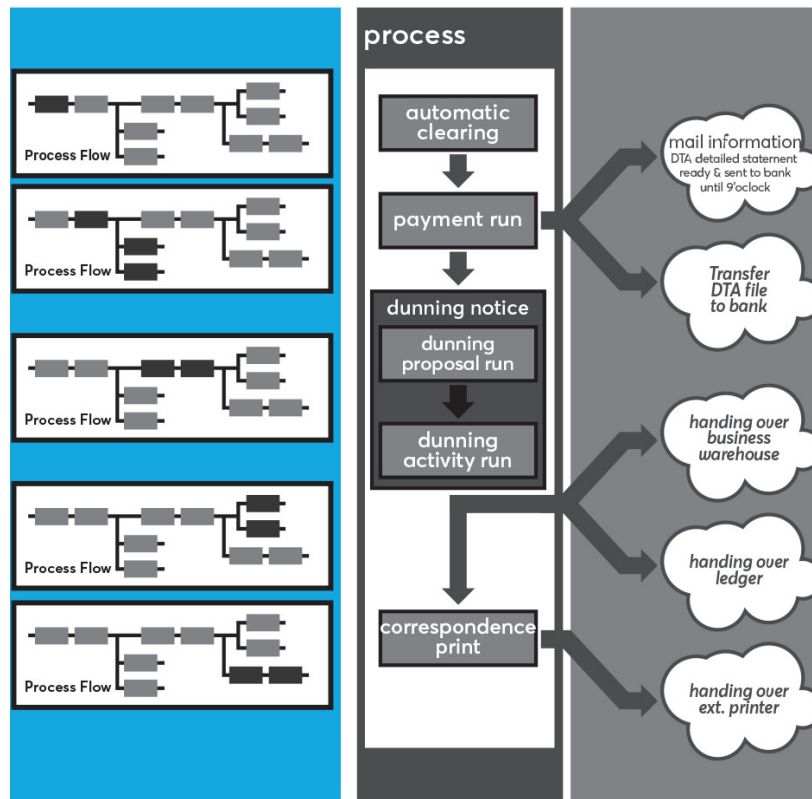

Figure 2: Get faster job completion with Automic Workload Automation parallel processing.
- Faster job completion because of optimized parallel processing (see Figure 2 on the following page).